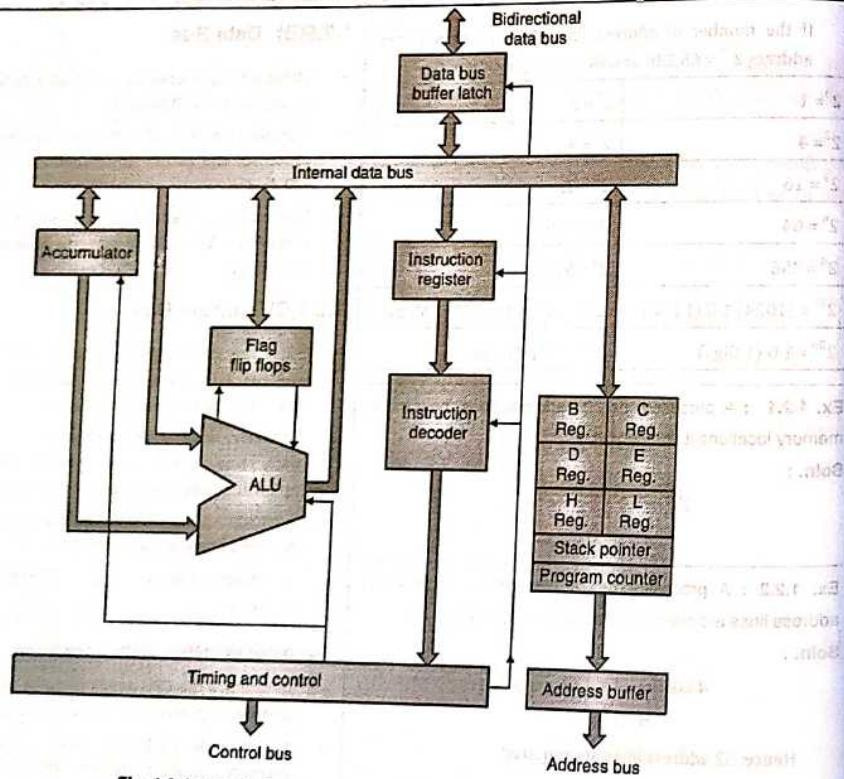

Fig. 1.2.4 : Block diagram of Generic Microprocessor
Fig. 1.2.4 below shows the block diagram of a generic microprocessor (which is similar to the architecture of 8080 microprocessor). The various units in this block diagram are:
1. **Internal bus :** The internal bus as shown in the Fig. 1.2.4 above connects all the components inside the processor for data communication between them.
5. **Timing and Control Unit :** It provides timing signal for synchronization of all the components inside and outside the processor and also provides the control signals. As seen in the Fig. 1.2.4, it provides control signals to all units inside the processor as well as on external control bus.